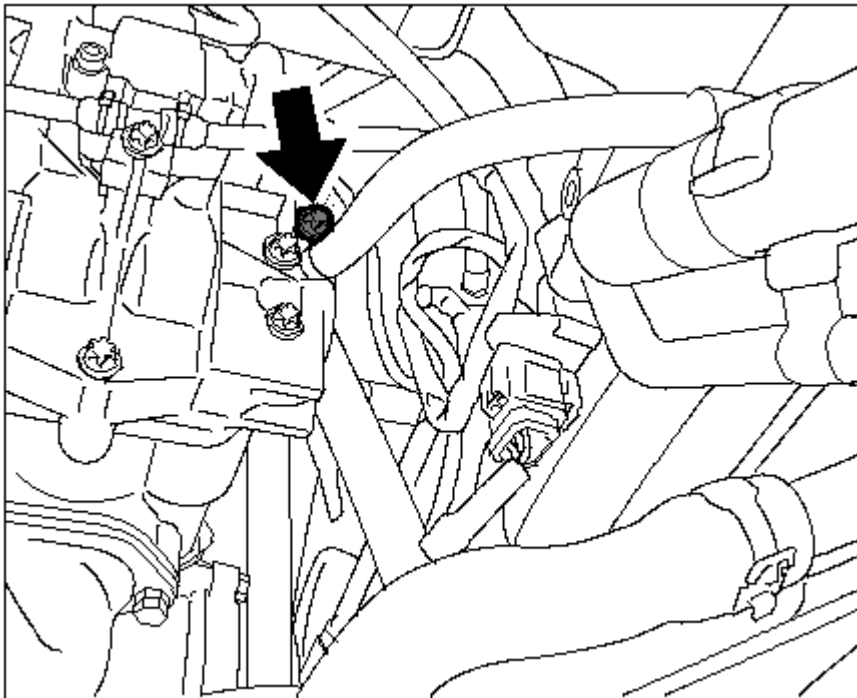

Fig. 6: Engine ground strap
2. Fit ground strap by inserting and tightening the Torx screw (M8 x 30) -arrow- . --> **Tightening torque: 17 ftlb.** . See **Fig. 6**.